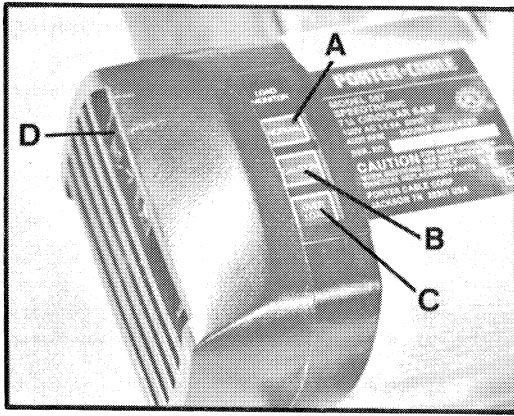

Fig. 1
When the saw is turned “on” and during normal sawing operations the green indicator light (A) Fig. 1, will be “ON”.
Should heavy sawing occur, requiring the motor to deliver heavy current, a yellow light (B) Fig. 1, will be “ON”. This could also be a warning that the blade is becoming dull and should be sharpened or replaced. The saw may be operated while the yellow caution light is “ON” without undue harm to the motor.
In the event extremely heavy loads are encountered, a red light (C) Fig. 1, will go "ON". The saw should not continue to be operated when the red light is "ON" as this indicates a severe overload condition exists that may cause damage to the motor. Stop the saw immediately, disconnect from power source and inspect blade for sharpness. Replace blade if dull and resume sawing. Should the red light go "ON" again, stop sawing and inspect for other conditions that may cause overloading, such as the use of excessively long extension cord of insufficient wire size, binding of saw blade, etc.
A by-pass switch is located within the end cap (D) Fig. 1. When this switch is moved to the left, the microprocessor control is bypassed and the saw operates as any other saw with a no-load speed of approximately 6000 RPM. It is recommended that the saw be operated in the controlled position (not bypassed) to obtain maximum benefits of the microprocessor control.